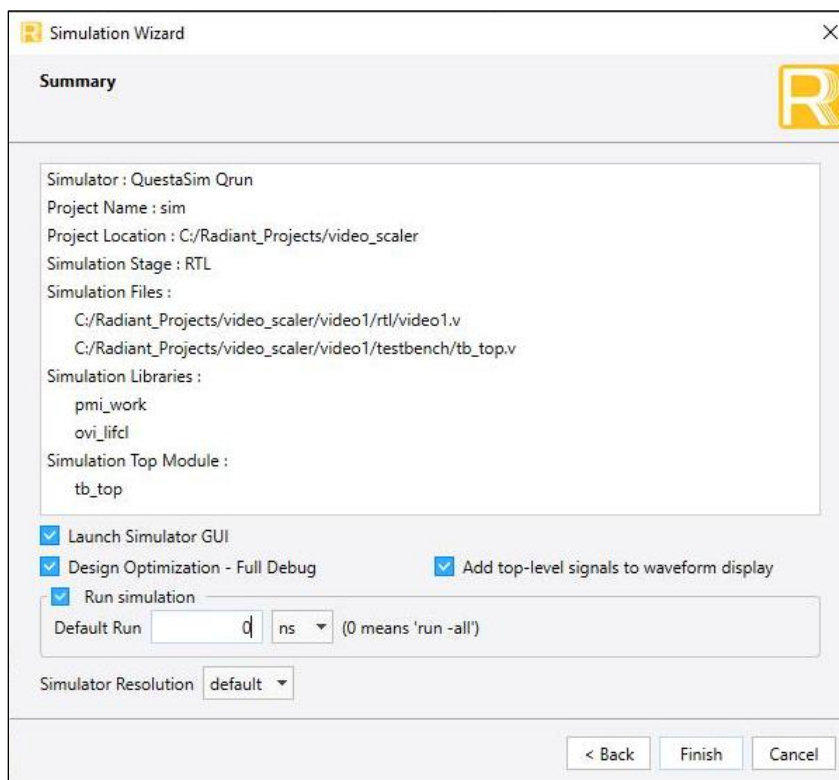

Figure 6.6. Run Simulation Value of 0 for Run All
- Change the simulation time to **0 ns**, which means run -all. See Figure 6.6.